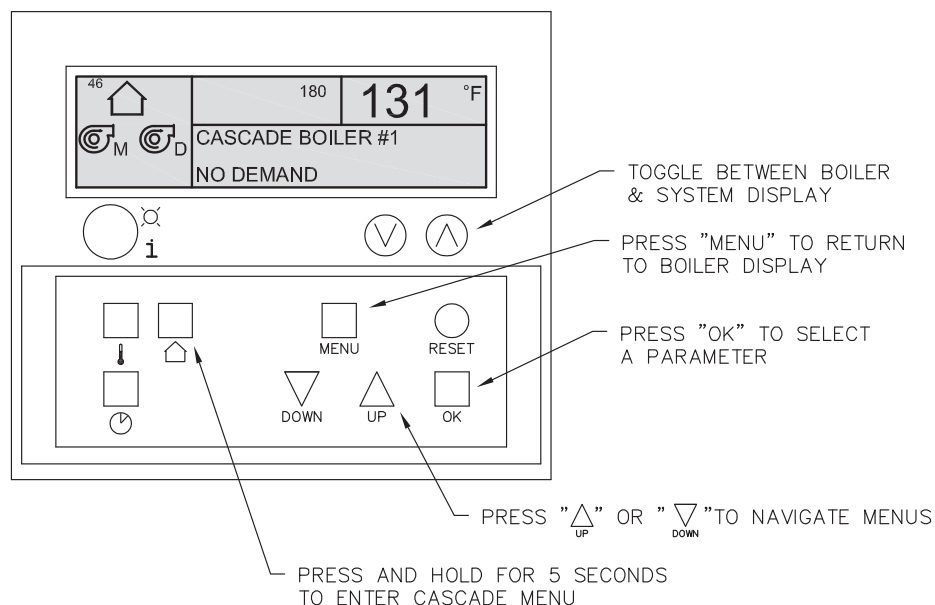
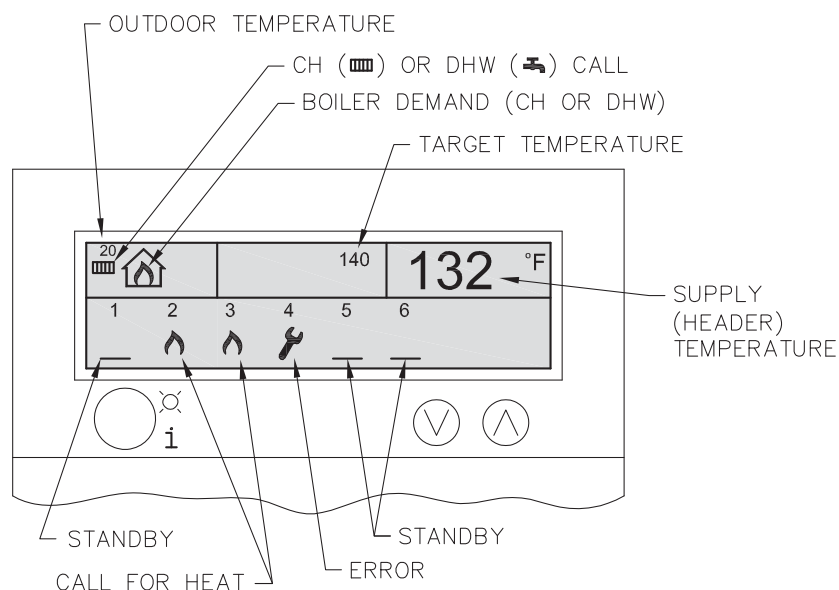

Figure A.2: Pixel Display Module
Figure A.3: Cascade Status Display
Figure A.3 shows the System Display Screen. As shown in Figure A.2, this is accessed by toggling the “(V) (A)” keys.